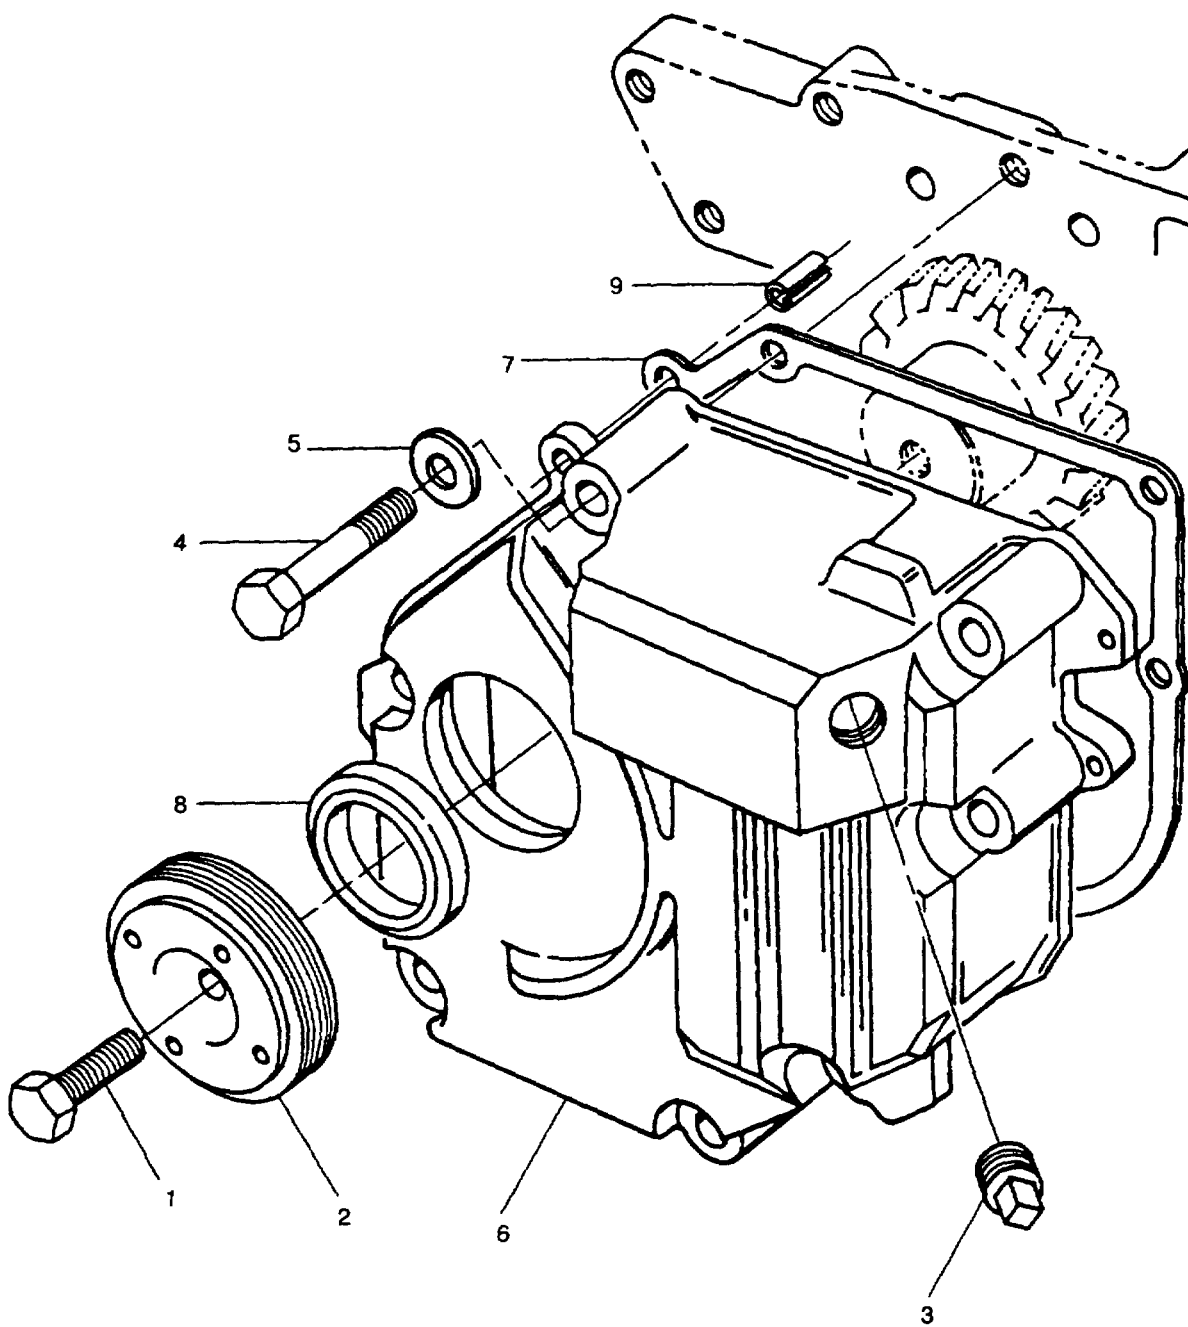
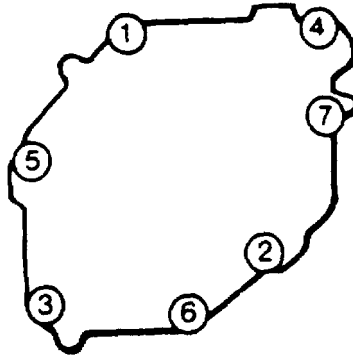

FIGURE 3-32. Gear End Cover
FIGURE 3-33. Gear End Cover Capscrew Tightening Sequence
Bolt (1, FIGURE 3-32) has left hand threads.
- a. Inspect crankshaft front oil seal (8, FIGURE 3-32) for excessive wear, damage, or signs of leakage.
- b. Inspect crankshaft pulley (2) for cracks and wear.
- c. Inspect end cover (6) for cracks or other physical damage.
- a. If removed, install two dowels (9, FIGURE 3-32), flat end first into crankcase fully.
- b. Install new seal (8) as follows:
- (1) Lightly grease sealing lip of new seal (8) with general purpose grease (630AA).
- (2) Position new seal (8) into outside neck of end cover (6), lip side first, and position it squarely on shoulder of seal boss.
- (3) Using suitable driver, drive seal into position in end cover (6).
- d. Install new gasket (7) dry, over two dowels (9), and onto crankcase.
- e. Install oil seal tool into outside face of oil seal (8).
- f. Install end cover (6), taking care to ensure new gasket (7) is not damaged and cover is correctly installed over dowels (9).
- g. Install seven capscrews (4) and washers (5) securing end cover (6) to crankcase. Tighten capscrews to 78 in-lbs (8.8 Nm) in sequence shown in FIGURE 3-33.
- h. Install plug (3).